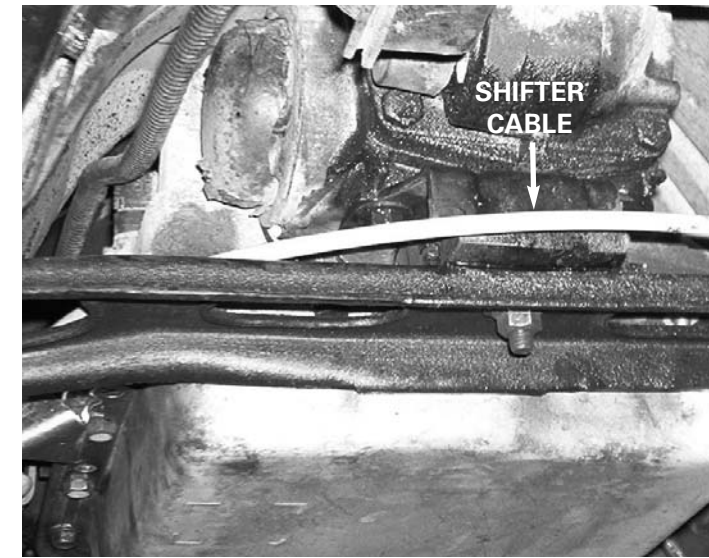

FIGURE 2
3. Remove factory shift cable from vehicle. From inside of vehicle, insert the new Hurst shifter cable with the threaded end going through the existing hole in the floor. From underneath vehicle, route the cable starting on the right (passenger) side, bringing it toward the rear and looping it around the back side of the transmission pan above the cross member, bringing it forward to the new cable bracket attached to the transmission pan on the drivers side (see fig. 2).